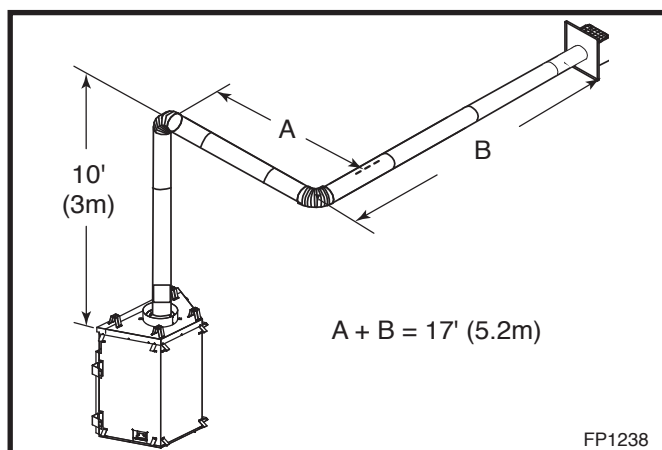

Fig. 19 Maximum vent run with elbows.
- The maximum number of 45° elbows permitted per side wall installation is two (2). These elbows can be installed in either the vertical or horizontal run. (Fig. 19)